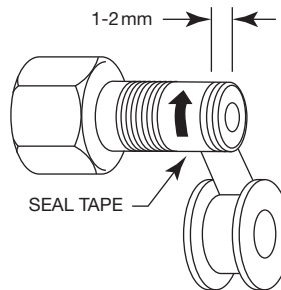

Figure 6
- 5) Oil leaks may be repaired as follows: Remove the coupler at point of the leak and carefully remove the seal tape from the thread. Then wrap new seal tape one and a half times around the thread. Start wrapping the seal tape 1-2mm from the edge of the thread (See Figure 6). Tighten the coupler back into position with torque 22 - 35 lb. ft.